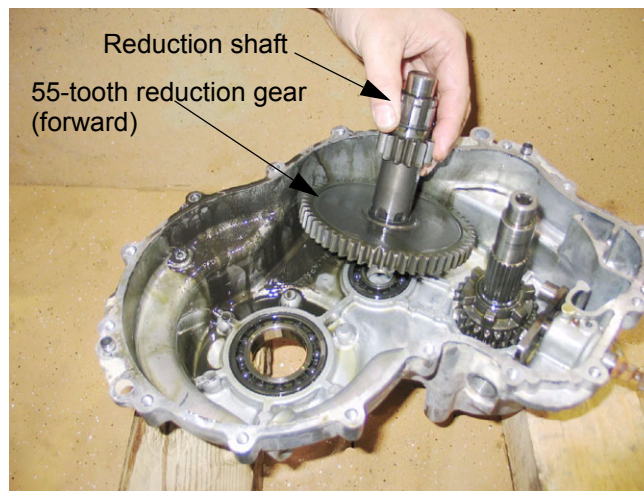

Figure 9.44
9.44. With the differential removed, the reduction shaft and 55-tooth gear can be lifted out of the transaxle together. See Figure 9.44.